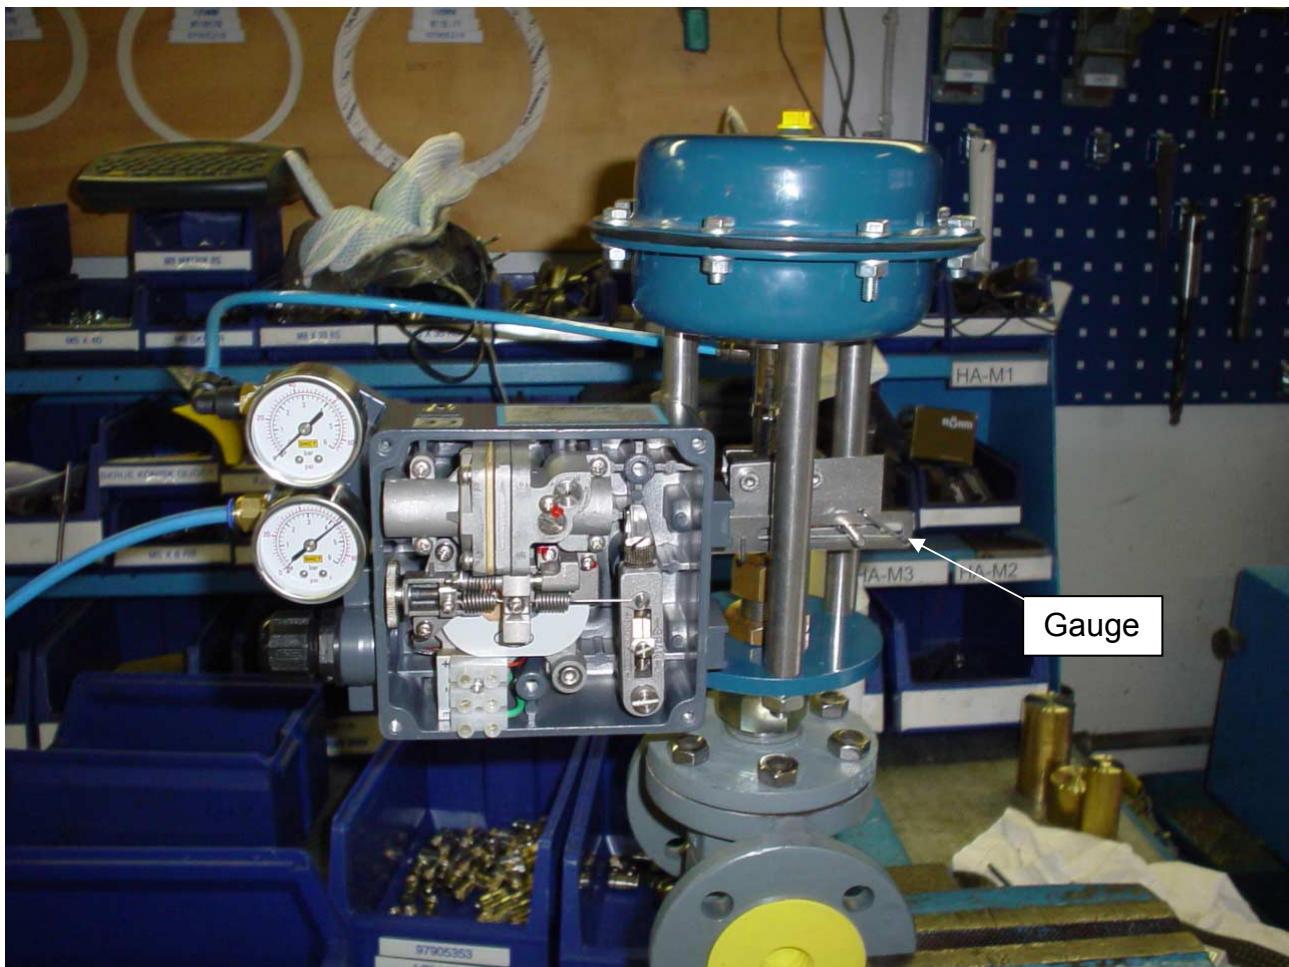

Fig. 6
- The positioner is mounted with the gauge in horizontal position (fig. 6).